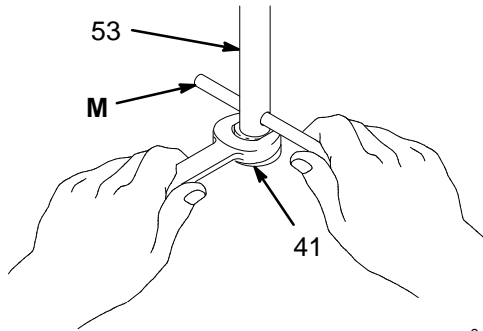

Fig. 6
6. Hold the priming tube (53) with a 0.25 in. (6.4 mm) diameter rod (M). See Fig. 6. Use a wrench to screw the priming piston (41) off the priming tube.
7. Use a pipe wrench at the knurled part of the displacement cylinder (58) to screw it out of the base (3). Screw the packing retainer (57) out of the cylinder. Remove the seal (45), bearings (54, 56) and packing (55).